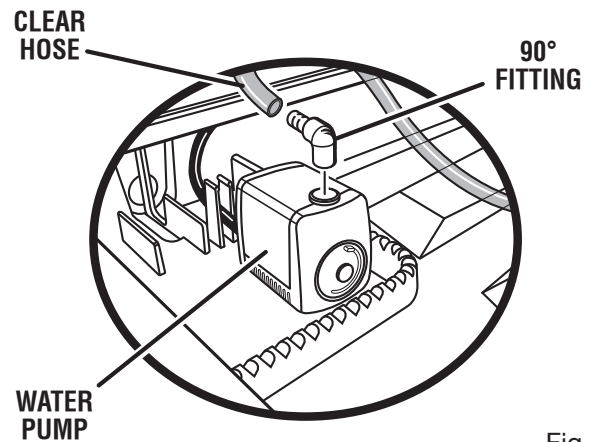

Fig. 13
See Figures 13 - 14.
- Position the pump as shown in Figure 13, with the hose end of the fitting facing the rear of the tray.